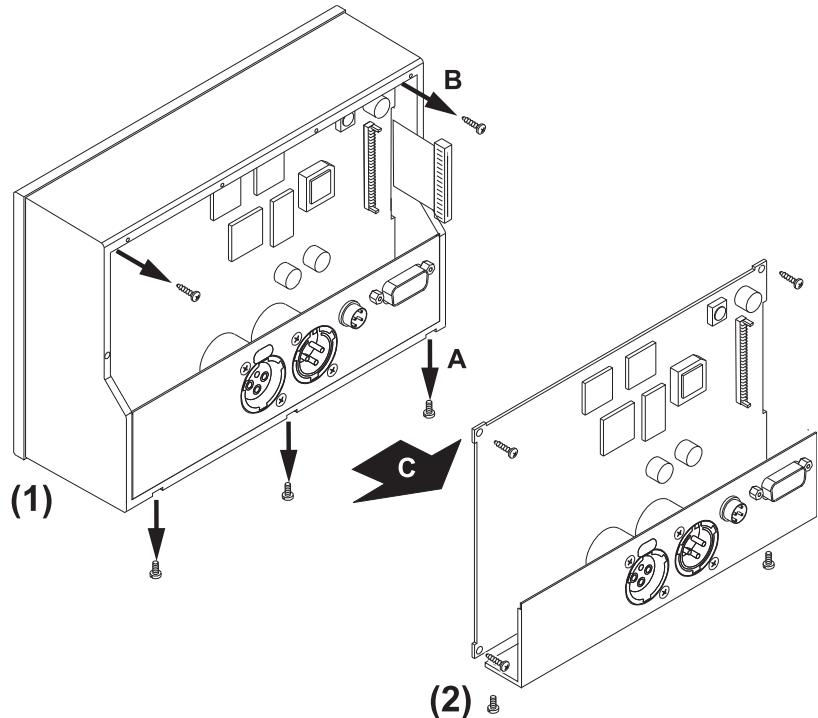

Fig. E 7-4: Unscrew and removal of connector panel and main pcb
3. Remove the two screws at the bottom of the DigitalMonitor 10500X-PLUS (A) which hold the connector panel in place. Take out the three screws (B) fixing the main pcb. Carefully remove connector panel and main pcb (C) and store them at a ESD protected place. (Fig. E 7-4)